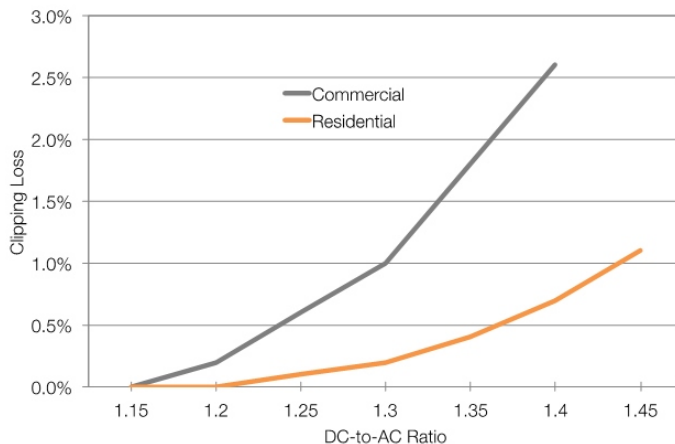

Figure 1[1]
1. **Reduced clipping loss:** In most of the cases, AC coupled systems have some clipping losses due to a high DC-AC ratio. Many vendors are claiming that deploying DC-DC converters between PV and battery systems reduces clipping loss and therefore increased production. Although this theory holds true, there is no substantial increase in production until we compare it with an AC coupled system with a DC-AC ratio higher than 1.3 (figure1) which is not the normal practice even at utility scale. However, when the DC-AC ratio is higher than 1.3, we can consider a DC coupled system.